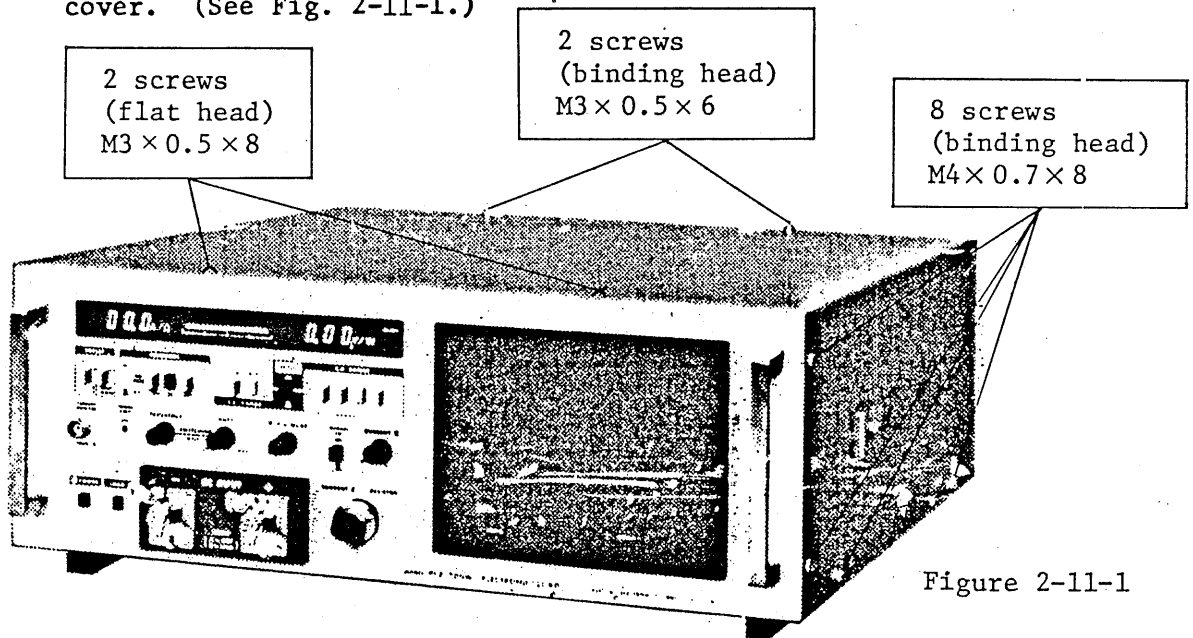

Figure 2-11-1
1. To have access to the internal operation/external operation switch which is installed inside the unit case remove the top cover. (See Fig. 2-11-1.)